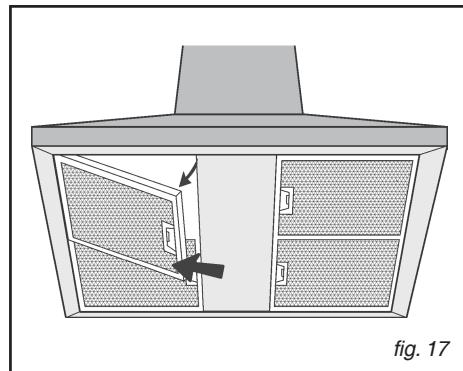

fig. 17
• **Removing the grease filters (fig.17)**
- Remove the grease filters (Fig.17): press the catch near the handle inwards and then pull the filter downwards.